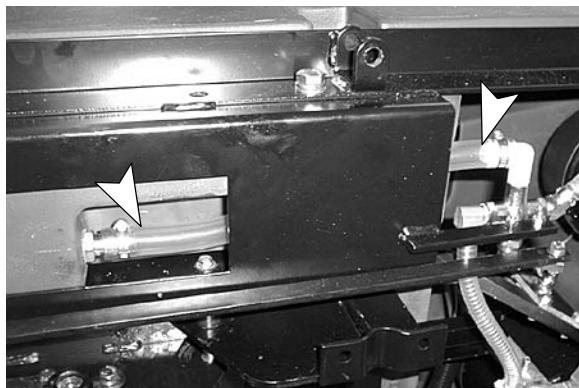

Fig. 10
9. Remove the clear solution hose to allow access for next step. Standard screwdriver required (Figure 10).